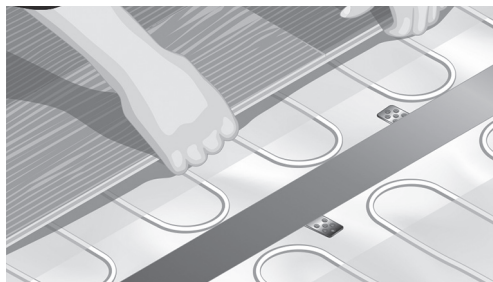

Fig. 10. Laying the floor
11. Laying the floor (Fig. 10).
When laying the floor, any orientation according to the heating mat is possible, but the best result is achieved when oriented as illustrated on Fig. 10. The floor must be installed as floating on top of the heating mat. The backside of the floor can not have any locking mechanism in metal as this will cause the heating mat to malfunction.